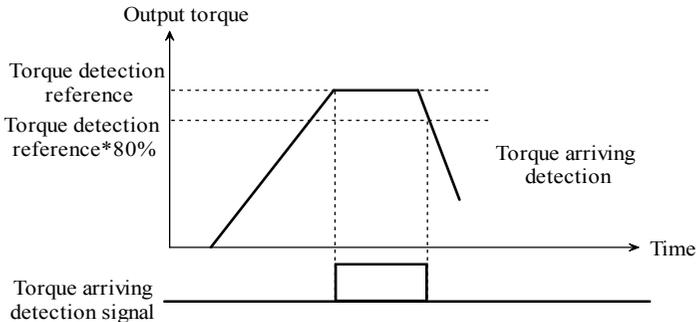

Figure. 5-3-11 Torque arriving
- ◆ If motor torque is equal to or more than the value of torque detection reference, the output of terminal is valid. If the motor torque is less than 80% of reference, the output of terminal is invalid, as shown in Figure. 5-3-11